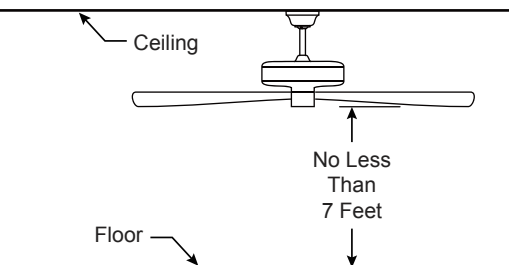

Figure 2
2. Install and securely tighten 3/16"-24 truss head screw with spring washer/flat washer at the underside of the blades, then securely tighten all previously installed screws on top of motor. (Figure 2)
2. Remove the hairpin clip and clevis pin from the bottom of the downrod. Retain the pin and clip for reinstallation in Step 4. (Figure 2)
The fan must be hung with at least 7' of clearance from floor to blades. (Figure 2)
To avoid possible electrical shock, be sure electricity is turned off at the main fuse box before wiring. (Figure 2)